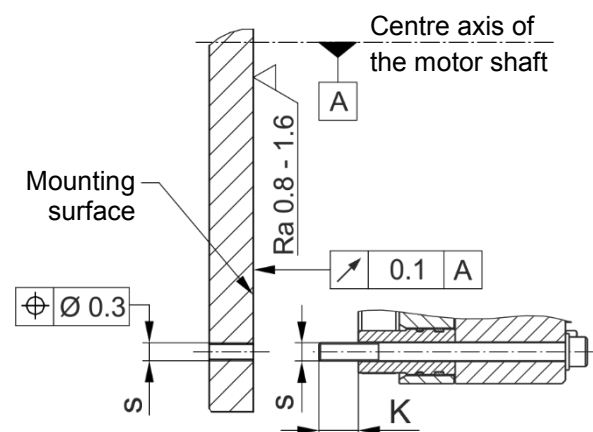

Fig. 5
- The mounting dimensions and the tapped holes s with depth $K + 2$ mm (K = screw projection) according to the applicable assembly drawing must be given (Fig. 5).
- The O-ring (8) must be lightly greased.
- The toothings of the motor shaft and the rotor (3) must not be oiled or greased.